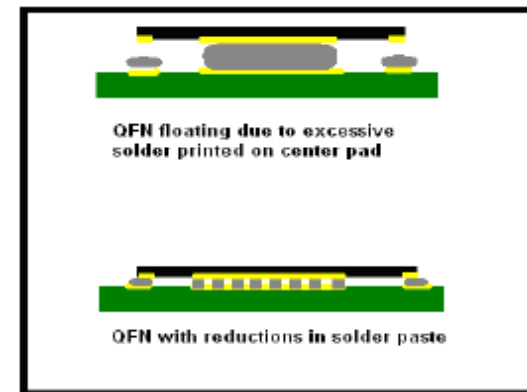

Figure 3.
Figure 3. Top views of microvoids located in a plane at the PCB land surface after SMT assembly and solder ball removal. Partially MD-metal-defined (L) and SMD-solder mask defined (R) PCB lands. Microvoids tend to appear more frequently near soldermask edges.